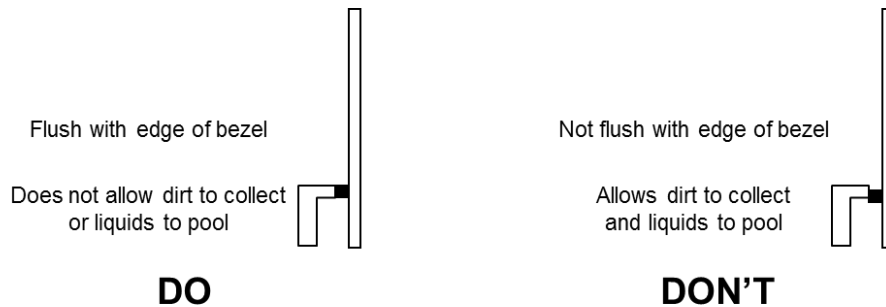

Figure 3-4 Flush Seal
2. Place the seal flush with the bezel. See Figure 3-4.